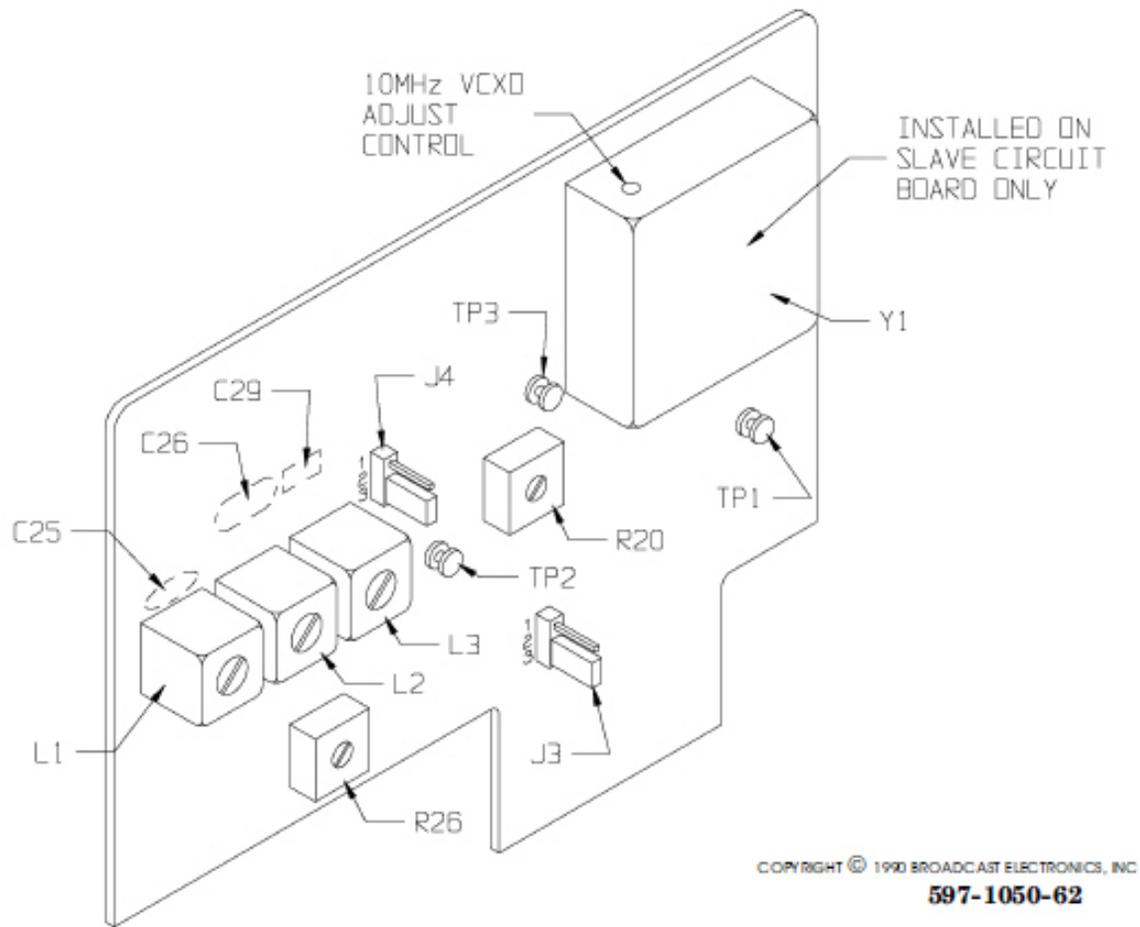

Figure 11-3. SLAVE/MASTER CIRCUIT BOARD CONTROLS
Refer to Figure 11-3, and adjust R26 for the level required by the transmission equipment.
- B. Remove the exciter top-cover. Refer to Figure 11-3 and connect an oscilloscope between TP2 and ground.
- D. Refer to Figure 11-3 and adjust R20 for a 50% duty cycle as indicated on the oscilloscope.
- B. Refer to Figure 11-3 and operate programmable jumpers J3 and J4 to position 2-3.
- C. Refer to Figure 11-3 and adjust output level control R26 to midrange position.
- D. Refer to Figure 11-3 and connect an oscilloscope to exciter rear-panel SUB-1 receptacle.
- F. Refer to Figure 11-3 and adjust L1, L2, and L3 for a maximum indication on the oscilloscope. Repeat if necessary.
C. Remove the top-cover. Refer to Figure 11-3 and connect a frequency counter between TP1 and ground.
F. Refer to Figure 11-3 and adjust the 10 MHz VCXO adjust control for 10 MHz +/-5 Hz as indicated on the frequency counter.
The removal or installation of capacitors C25, C26, and C29 selects alternate reference frequencies. If an alternate frequency is desired, refer to Figure 11-3 and the following information and install the required combination of capacitors.